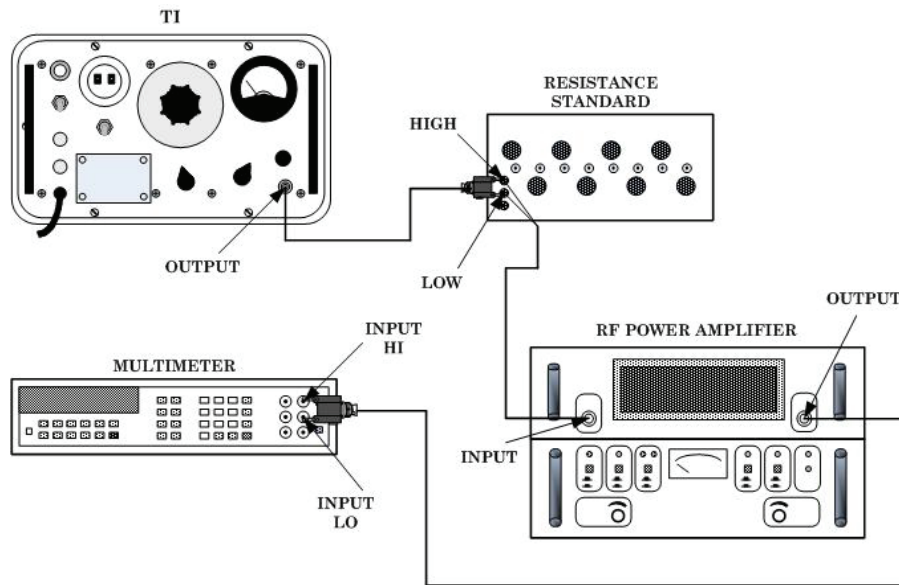

Figure 1. Equipment connection.
(9) Connect equipment as shown in figure 1 below.